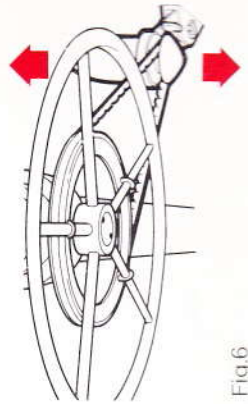

Fig.6
- Push the clevis downwards against the side wall until the belt is just taut and then adjust its fore-and-aft position until the belt lies parallel to the wheel. A long straight edge, such as a sail batten, will enable the parallel run of the belt to be easily checked. (Fig.6).